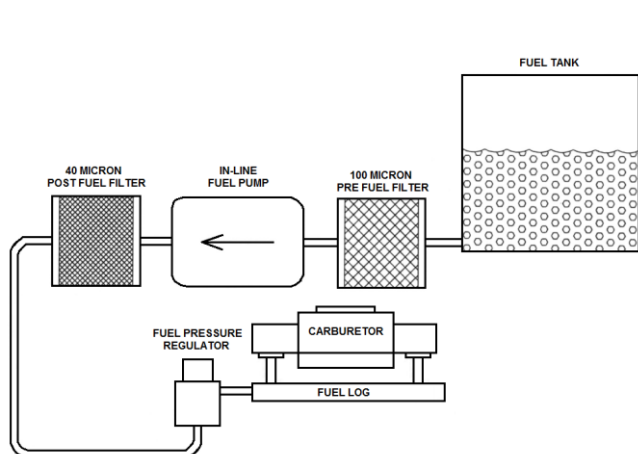

Figure 1
2. Regulator # 12850ERL has two discharge (out) ports (see Figure 1). In dual carburetor installations, one port can feed each carburetor. With single carbs, plug one port and feed the carburetor from the other. Either may be used. Installations should determine choice.
4. Connect the other line per Figures 1, 2, or 3.